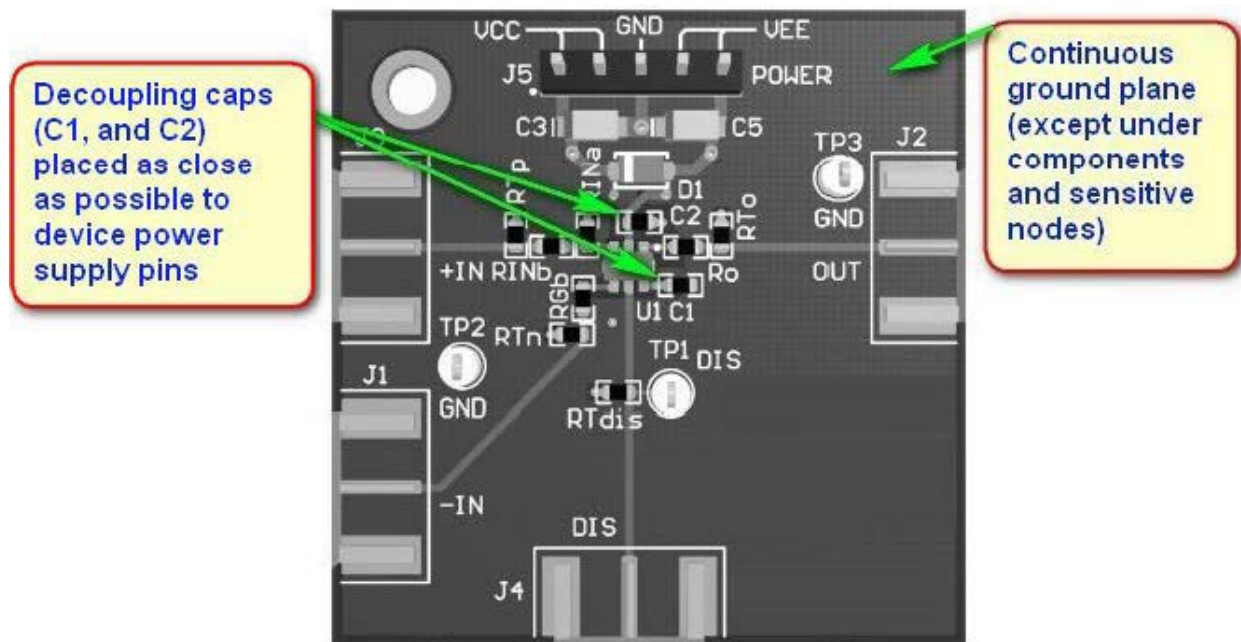
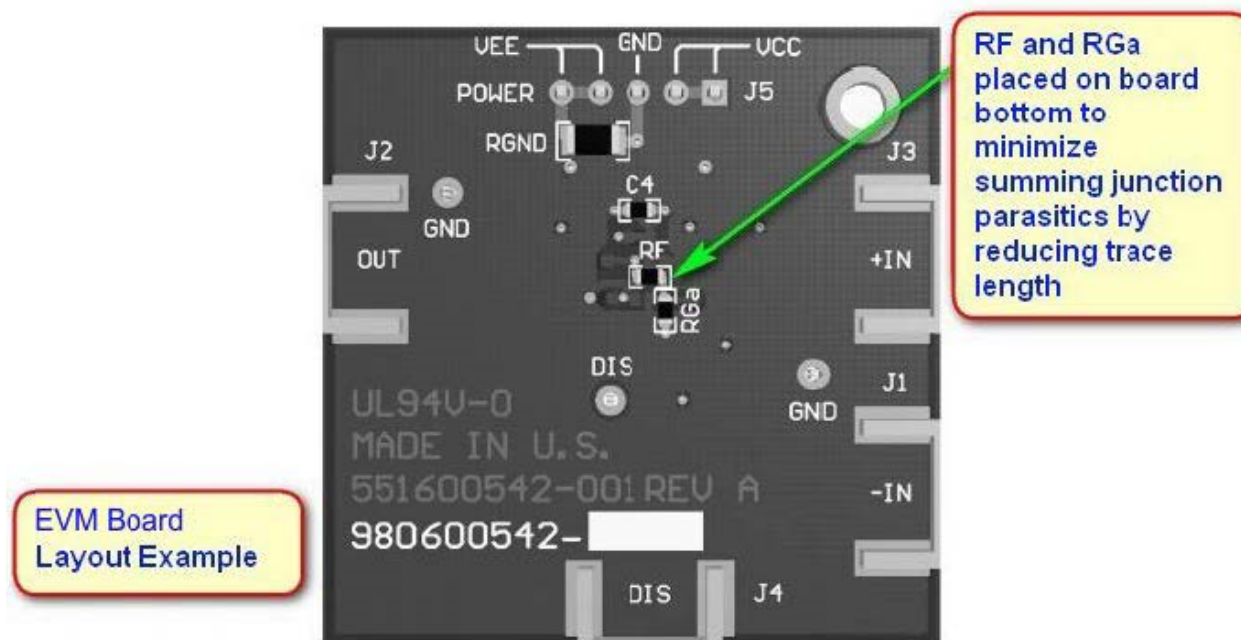

Figure 33. Evaluation Board Layer 1
Figure 34. Evaluation Board Layer 2
- Continuous ground planes are preferred for signal routing, as shown in Figure 33 and Figure 34, with matched impedance traces for longer runs. However, open up both ground and power planes around the capacitive sensitive input and output device pins.
- Use good, high-frequency decoupling capacitors (0.1 μF) on the ground plane at the device power pins as shown in Figure 33. Higher value capacitors (2.2 μF) are required, but may be placed further from the device power pins and shared among devices. For best high-frequency decoupling, consider X2Y supply-decoupling capacitors that offer a much higher self-resonance frequency over standard capacitors.
- The input summing junction is very sensitive to parasitic capacitance. Connect any R_f and R_g elements into the summing junction with minimal trace length to the device pin side of the resistor, as shown in Figure 34. The other side of these elements can have more trace length if needed to the source or to ground.